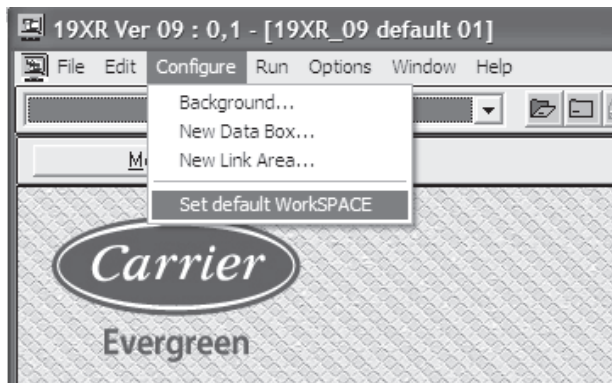

Fig. 29 — Configure as Default Workspace
41. Then, under the “Configure” tab, select “Set default workSPACE” (Fig. 29).